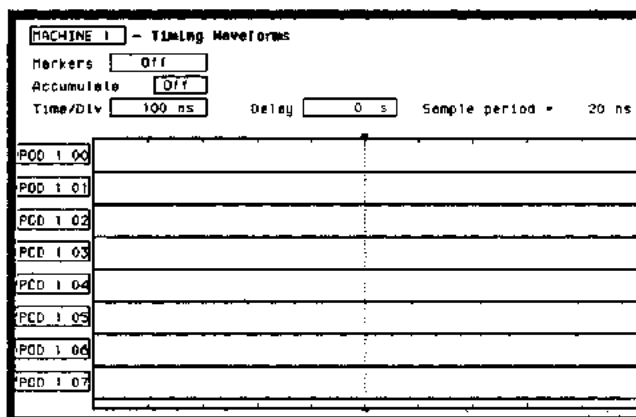

Figure 3-40. Threshold Accuracy Timing Waveforms 2
8. Press RUN. Data displayed on the **Timing Waveforms** display is all low for the channels under test as in figure 3-40.
13. Press RUN. Data displayed on **Timing Waveforms** display is all low for the pod and channels under test as in the previous figure 3-40.
18. Press RUN. Data displayed on **Timing Waveforms** display is all low for the pod and channels under test as in the previous figure 3-40.